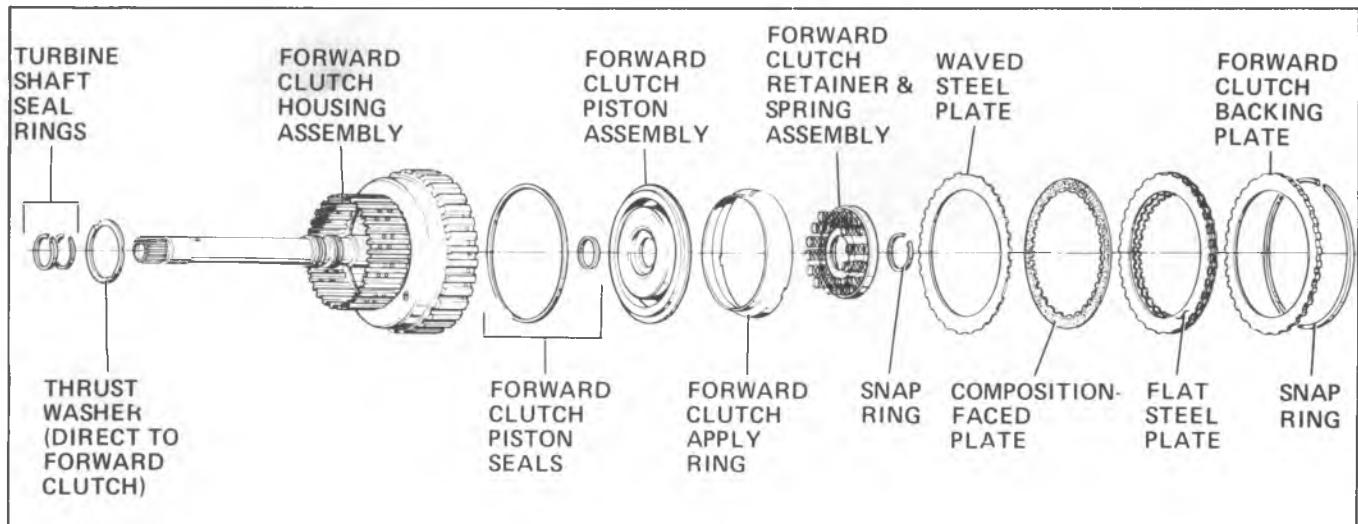

Fig. 7A-110A-Forward Clutch Assembly - Exploded View
6. Remove the clutch plates from the forward clutch housing and keep them separated from the direct clutch plates. (See Clutch Plate Usage Chart Fig. 7A-82A).